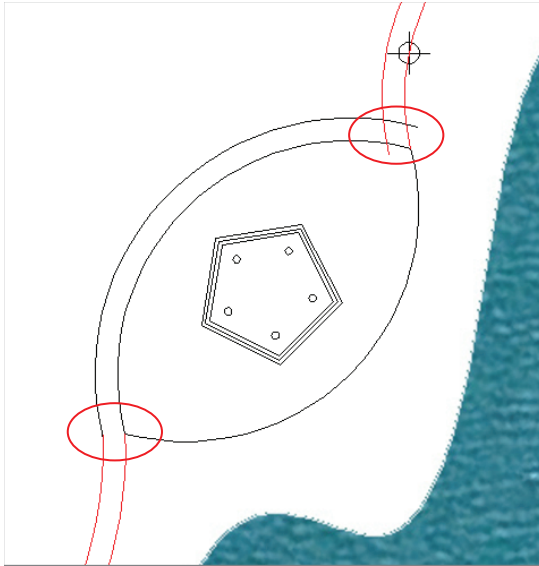

FIGURE 5.5 Trimming polylines and arcs
11.  Click the Trim tool in the Modify panel. Press Enter to select all objects as potential cutting edges, and click the portions of the arcs that overlap in the top highlighted area in Figure 5.5. Zoom into the lower highlighted area, and trim the arcs so that they meet at their endpoints. Press Esc to end the TRIM command.